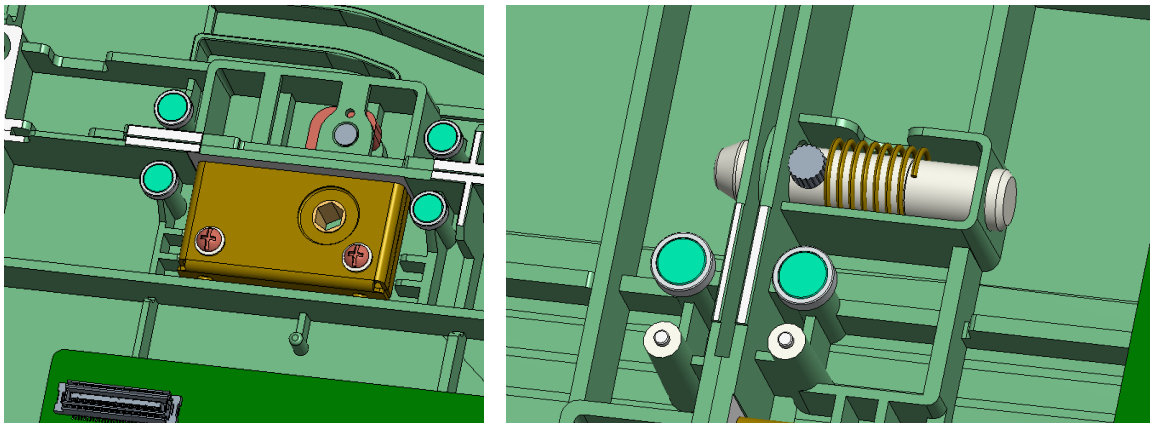
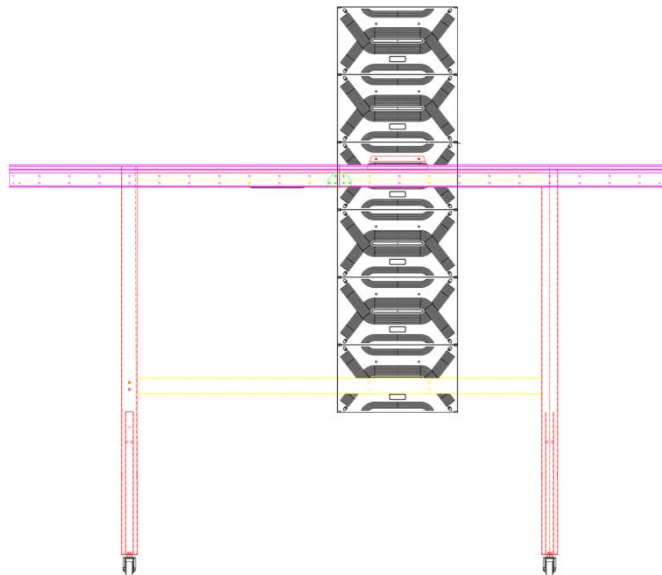
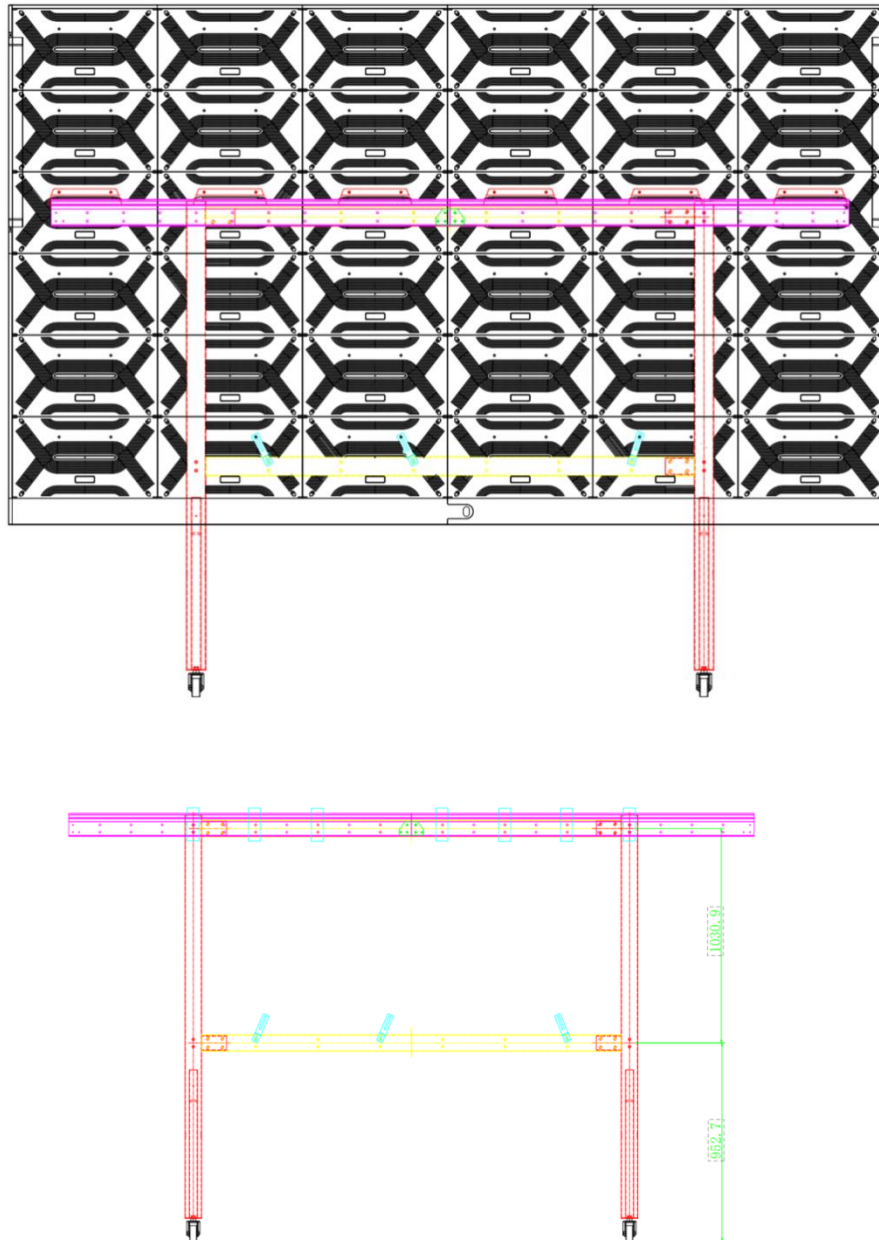

Figure 9
Figure 11: Viewed from back
Figure 12
7. When individual columns are complete, hang them on the Hanging Bar starting with the center column (see Figure 11 & Figure 12) and adding additional columns to either side moving outward. Place columns in position next to each other with the spring latches of one column aligned to the holes of the adjacent column (see Figure 9).
the side hook lock with a corresponding Allen wrench to completely lock the two columns of cabinets, The installation positions of the second row wall-mount bar and Z-shaped connector are shown in Figure 12, Please ensure that the device is centered when mounted(The connector plates and screws are provided in the stand packaging).